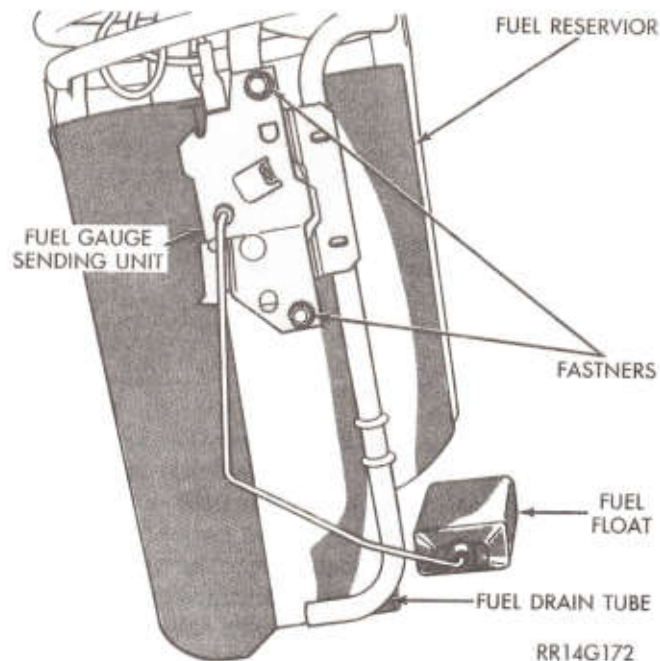

Fig. 3—Fuel Gauge Sending Unit Service
(1) Remove sending unit attaching screws (2) from mounting bracket located on the drain tube. (Fig. 3).